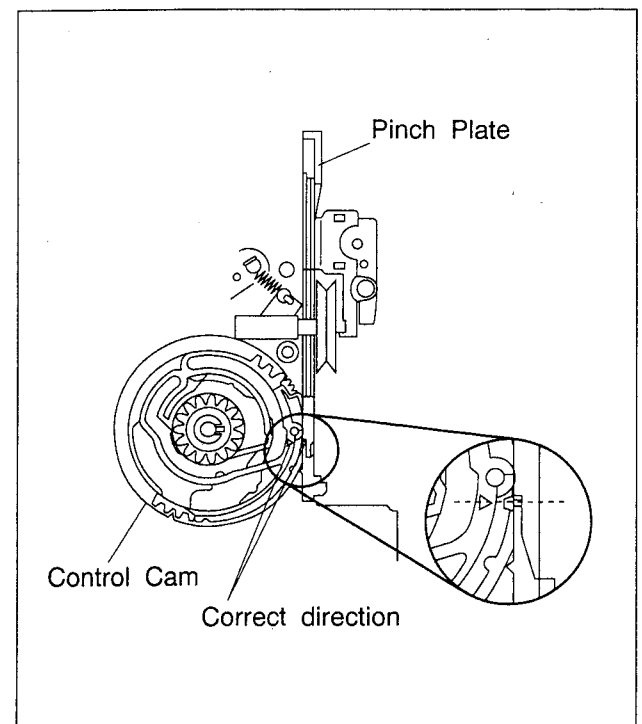

Fig. 2-5-6
- (1) When installing the pinch plate, align rack of the pinch plate and triangle mark of the control cam as indicated in Fig.2-5-6.